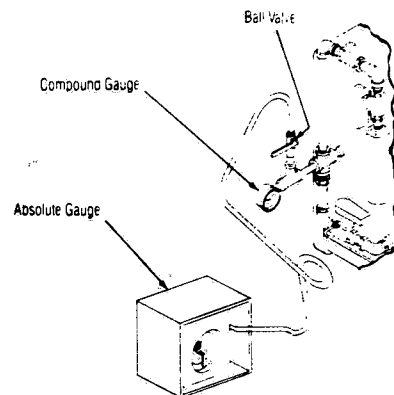

FIGURE 5-3 - Installing Test Gauges
2. Gravity units - connect the calibrated compound pressure gauge to the 1/2" NPT opening at left rear of sterilizer chamber (see Figure 5-3).